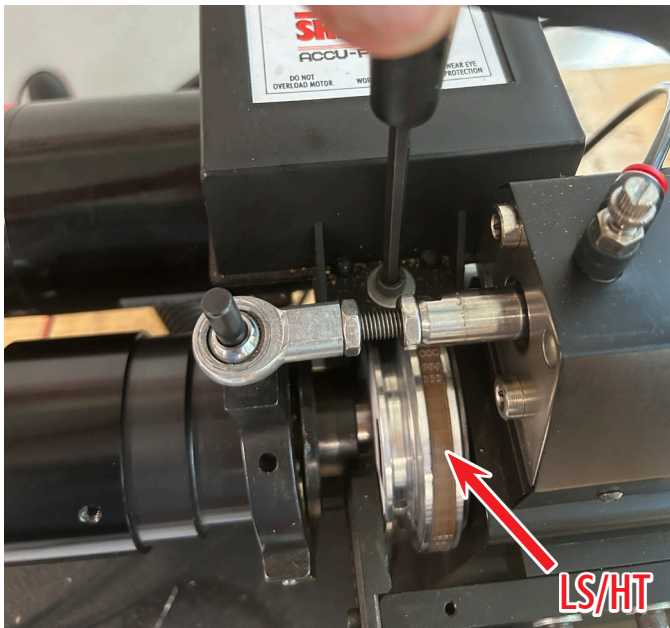

FIGURE 1—The red arrow indicates the location of the low-speed/high-torque pulley groove.
3. The High-Speed pulley groove is the groove closest to the end of the spindle. The Low-Speed/High-Torque pulley groove is the groove closest to the headstock body shown below (See Figure 1).